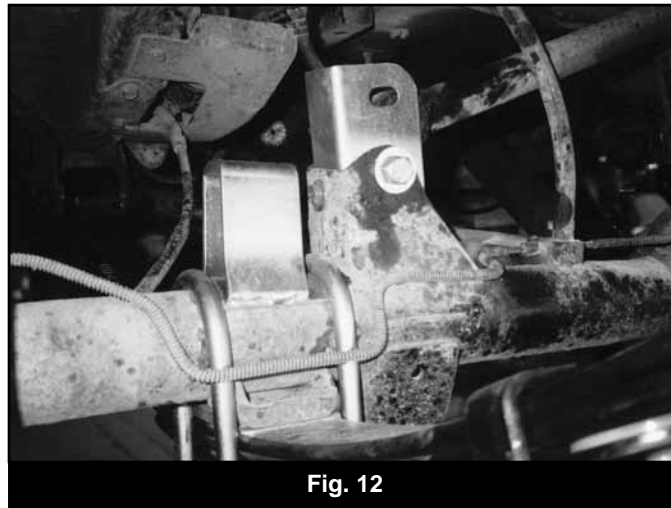

Fig. 12
70. Install the provided rear track bar relocation bracket in the OE axle mounting. (Fig. 12)